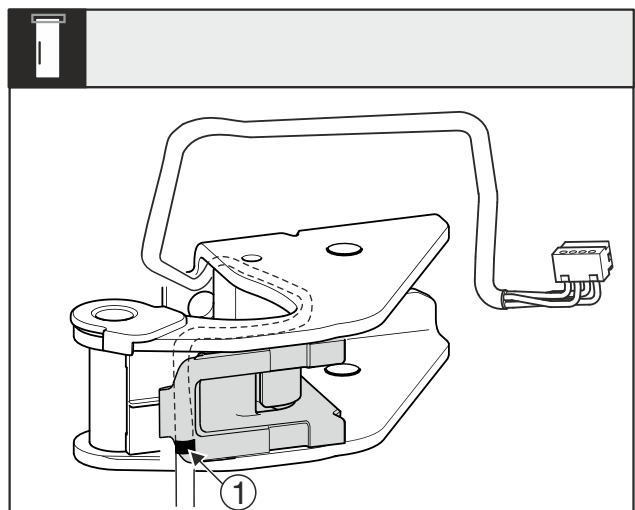

Fig. 29
- ▶ Place the middle marking Fig. 29 (1) on the edge of the cable holder.